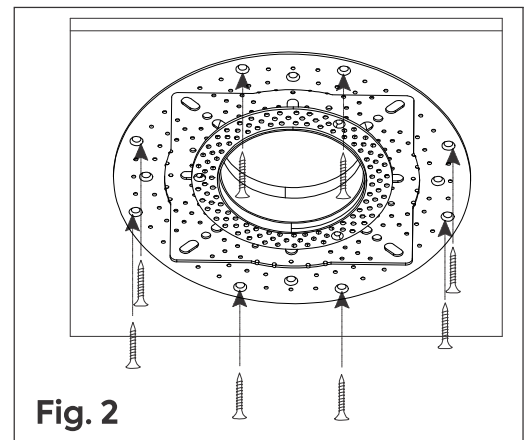

Fig. 2
Step 3: Hold the downsizer ring flush against the ceiling and screw it into place using #8 or #10 drywall screws. **Fig. 2**.